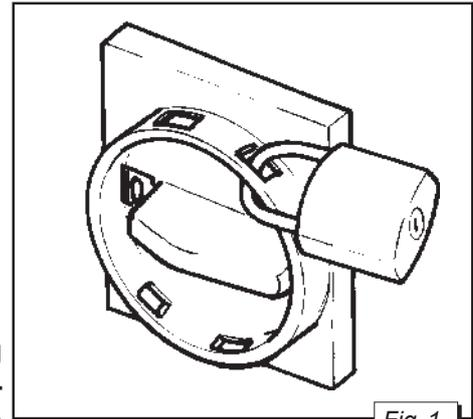

Fig. 1
- [A] **RED LIGHT** = t corresponds to the red light [6] (see fig.1 of this chap.) of the electric panel.
- [B] **SELECTOR FOR ACCESS REQUEST** = with the machine in automatic running mode, by rotating the selector clockwise, the palletizer makes an in-phase stop, with the arch [E] (see fig.1 chap.2) in the home position or at the maximum height or over the roller conveyor and the open clamp, so the palletizer's restart remains inhibited.
Before performing any maintenance operation, lubricating parts, replacing spare parts or cleaning machine equipment, it is strictly necessary to disconnect your machine from the power supply using the main switch on the front side of the electric panel (set it to 0) and padlock the main switch (see fig. 1). The main switch lock key should be exclusively given to a maintenance operator (duly skilled, trained and authorized to service your machine). Afterwards power cords and pneumatic air supply pipes should be disconnected.